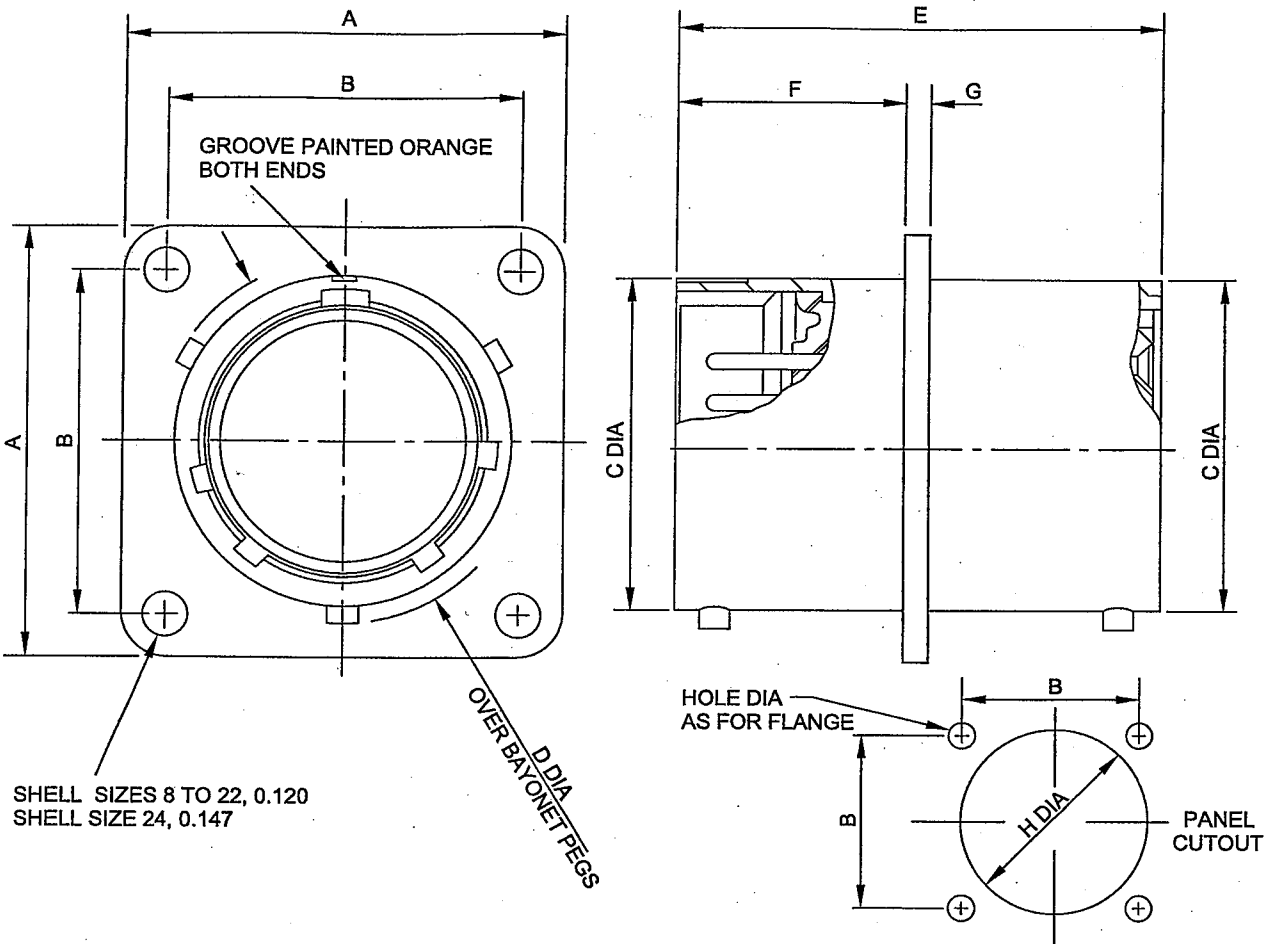

Fig 25 460HTB through bulkhead receptacle, dimensions
17.2 Details, including panel mounting hole dimensions, of the receptacle are given in Fig 25 and Table 15.